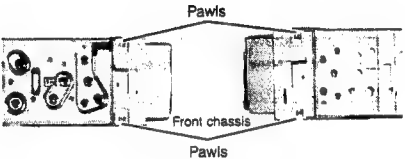

Fig. 2
- ◆ **Removing the front chassis** (See Fig. 2)